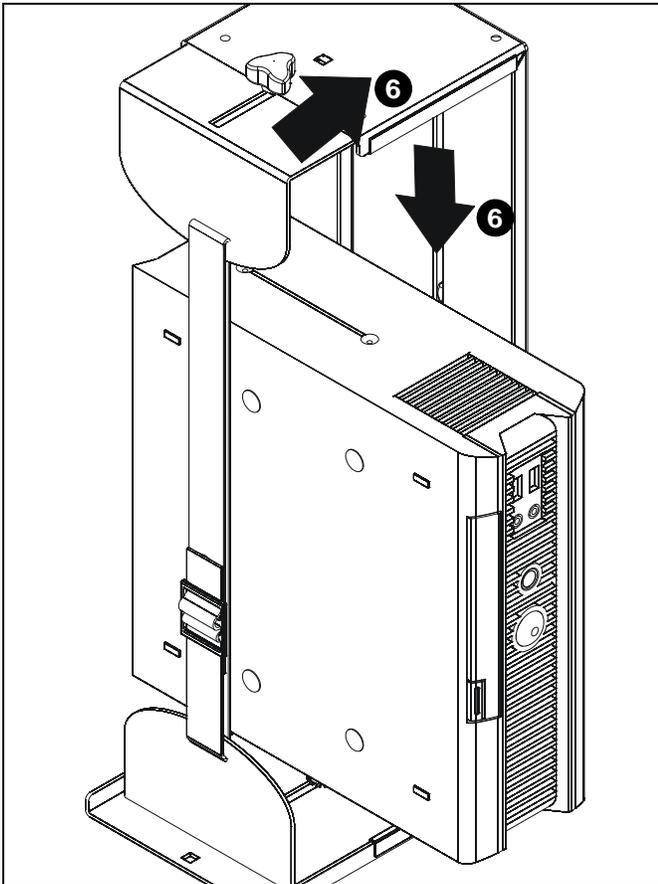

Figure 5
5. Set CPU within mount (D). (See Figure 5)
- Use adjustment knobs to compress mount around CPU until CPU is tightly secured within mount (D). (See Figure 5)